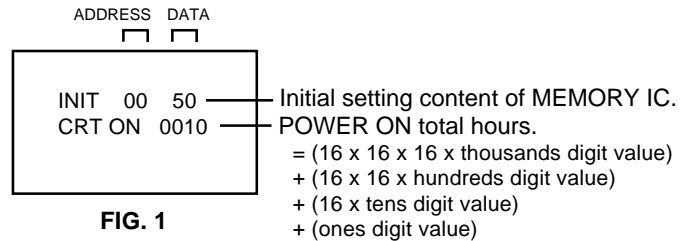

FIG. 1
2. Press both VOL. DOWN button on the set and Channel button (6) on the remote control for more than 2 seconds. ADDRESS and DATA should appear as FIG 1.
10. Press both VOL. DOWN button on the set and Channel button (1) on the remote control for more than 2 seconds.